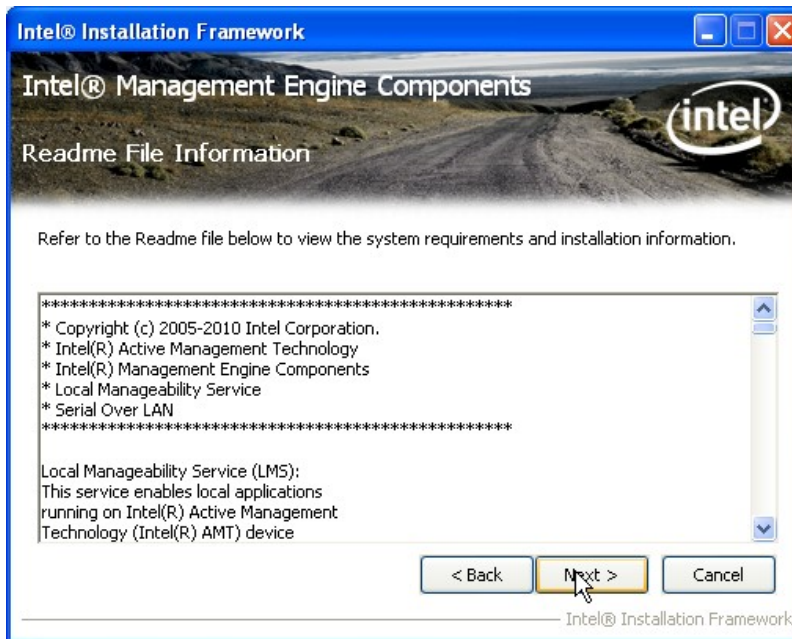

Figure 6-29: Intel® ME Driver Read Me File
Step 10: The Read Me file in Figure 6-29 appears.